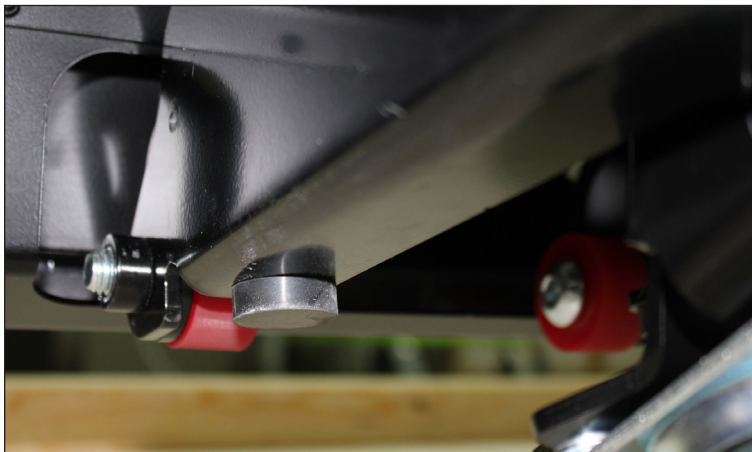

Figure 11: Reinstall Front Red Wheels Inside Caster Base
8. Use the 5/16" Allen wrench to reinstall the red wheels from *inside* the caster base to attach it to the bottom of the table. Refer to **Figure 11**. Do not overtighten the bolts; the wheels should be able to spin freely.